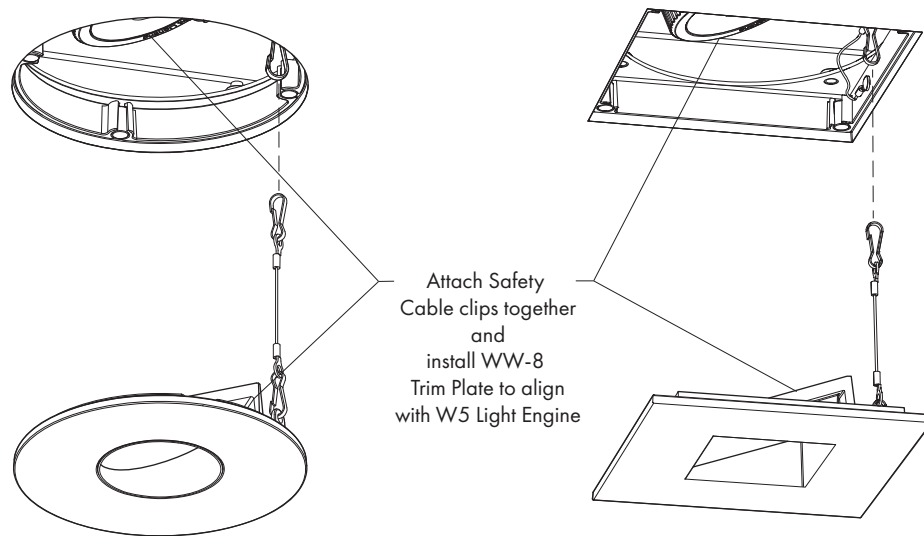

FIG 5.2 Align WW-8 Trim Plate with W5 Light Engine
STEP 2 Install WW-8 Trim Plate to be aligned to Light Engine-**FIG 5.2**.